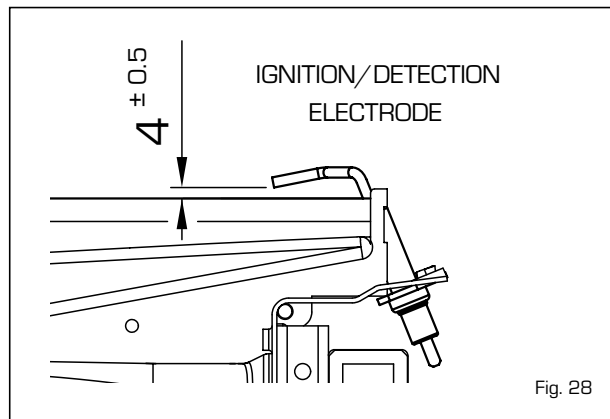

Fig. 28
- Re-assemble in reverse order. Check the electrode gaps (fig. 28) and test for gas soundness.